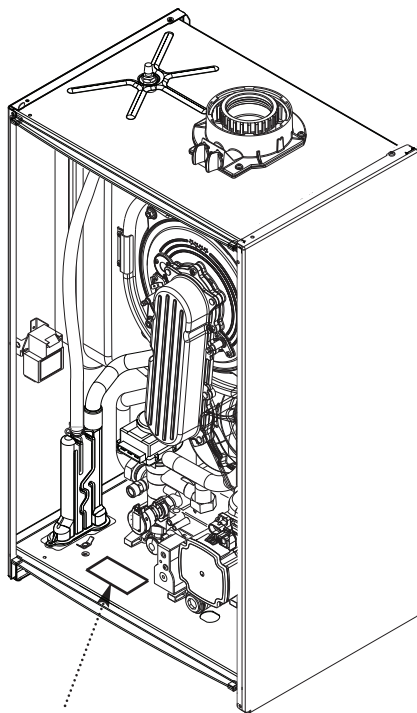

Fig. 6
1. The boiler data badge gives details of the model, serial number and Gas Council number and is situated on the boiler lower panel. It is visible when the control box is lowered (Fig. 6).